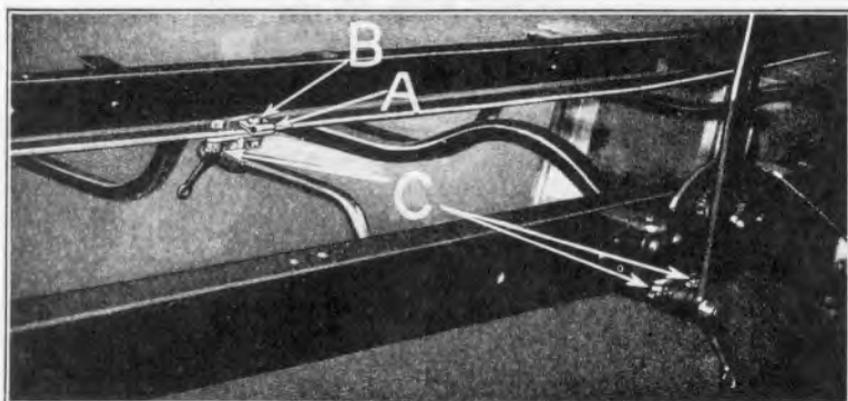

Fig. 65
- Insert the four control shaft bracket bolts and nuts which hold shaft to frame, positioning feed pipe clamp (See "A" Fig. 65) under head of bolt "B".